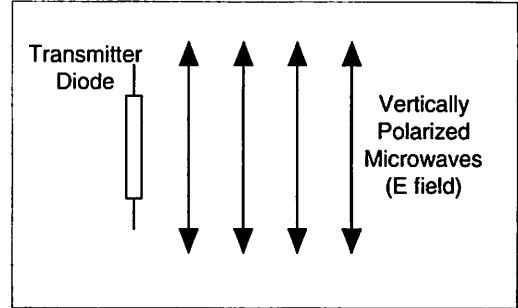
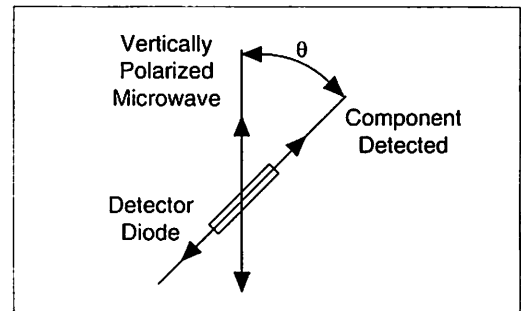

Figure 5.1 Vertical Polarization
Figure 5.2 Detecting Polarized Radiation
The microwave radiation from the Transmitter is **linearly polarized** along the Transmitter diode axis (i.e., as the radiation propagates through space, its electric field remains aligned with the axis of the diode). If the Transmitter diode were aligned vertically, the electric field of the transmitted wave would be vertically polarized, as shown in Figure 5.1. If the detector diode were at an angle θ to the Transmitter diode, as shown in Figure 5.2, it would only detect the component of the incident electric field that was aligned along its axis. In this experiment you will investigate the phenomenon of polarization and discover how a polarizer can be used to alter the polarization of microwave radiation.
- ① If the Receiver meter reading (**M**) were directly proportional to the electric field component (**E**) along its axis, the meter would read the relationship $M = M_0 \cos\theta$ (where θ is the angle between the detector and Transmitter diodes and M_0 is the meter reading when $\theta = 0$). (See Figure 5.2). Graph your data from step 2 of the experiment. On the same graph, plot the relationship $M_0 \cos\theta$. Compare the two graphs.
- ② The intensity of a linearly polarized electromagnetic wave is directly proportional to the square of the electric field (e.g., $I = kE^2$). If the Receiver's meter reading was directly proportional to the incident microwave's intensity, the meter would read the relationship $M = M_0 \cos^2\theta$. Plot this relationship on your graph from question 1. Based on your graphs, discuss the relationship between the meter reading of the Receiver and the polarization and magnitude of the incident microwave.
- ③ Based on your data from step 5, how does the Polarizer affect the incident microwave?
- ④ Can you explain the results of step 6 of the experiment. How can the insertion of an additional polarizer increase the signal level at the detector? (**HINT**: Construct a diagram like that shown in Figure 5.2 showing (1) the wave from the Transmitter; (2) the wave after it passes through the Polarizer; and (3) the component detected at the detector diode.)